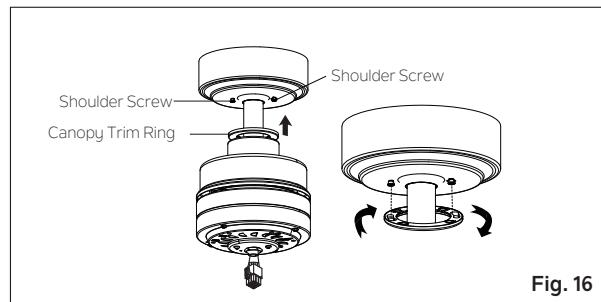

Fig. 16
Step 3. Raise the canopy trim ring to the canopy. Place the key hole slots in the canopy trim ring over the heads of the shoulder screws. Rotate the canopy trim ring (clockwise) until it locks in place against the shoulder screws (at the narrow ends of the key hole slots). (**Fig. 16**)
NOTE: Adjust the shoulder screws as necessary until the canopy and canopy trim ring are snug. (**Fig. 16**)